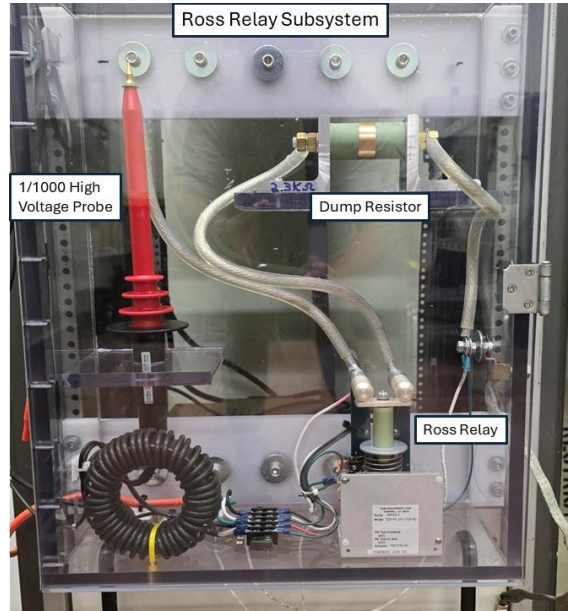

Fig. 4 Modification to the pulser module for direct shorting and monitoring of the internal capacitors through a Ross relay and external dump resistor
The pulser module was also modified by adding a direct connection to the internal capacitors to enable direct shorting and monitoring of the voltage on the capacitors. This connection is hard wired to a Ross relay, dump resistor, and 1/1000 high voltage (HV) probe (shown in Fig. 4). The Ross relay must also be powered by an interlocked power source. Thus, if the interlock is broken, the VAC power to the pulser will be turned off and the Ross relay will be closed. The time constant for the dump resistor circuit is 1.5 s and thus a charge of 3000 V will be reduced to less than 60 V in 6 s and will be fully discharged in less than 10 s.